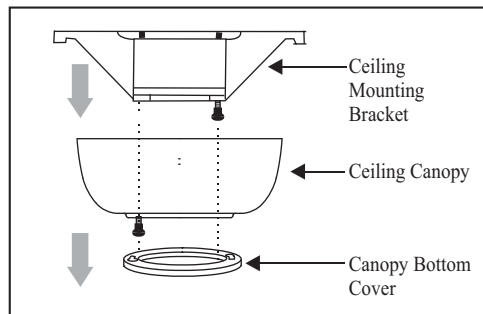

Figure 5
1. Remove the decorative canopy bottom cover from the canopy by turning the cover counter clockwise. (Figure 5)
2. Remove the mounting bracket from the canopy by removing the 1 of 2 screws from the bottom of the mounting bracket and loosening the other one a half turn from the screw head. Next, turn the canopy counter clockwise to removing the canopy cover form the canopy. (Figure 5)